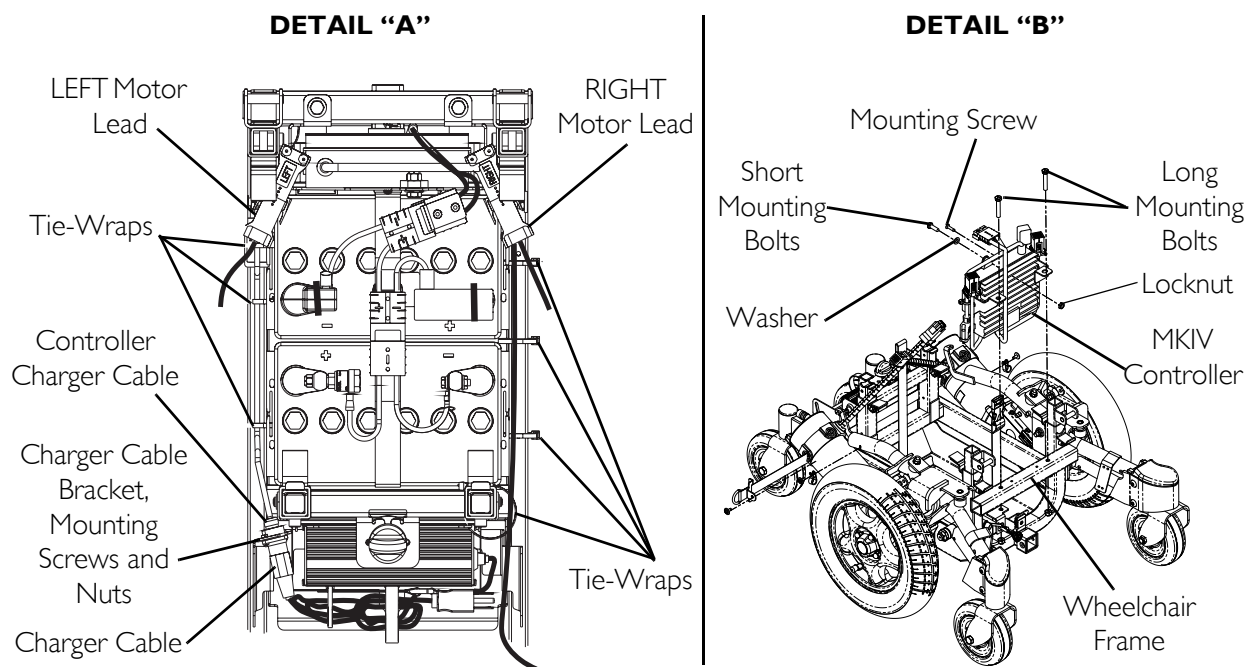

FIGURE 12.6 Replacing the MKIV RII™ 80 AMP Controller
NOTE: For this procedure, refer to FIGURE 12.6 on page 121.
3. Disconnect the right and left motor leads (Detail "A" of FIGURE 12.6).
4. Disconnect the controller charger cable from the charger cable (Detail "A" of FIGURE 12.6).
8. Remove the two mounting bolts securing the controller bracket to the wheelchair frame. (Detail "B" of FIGURE 12.6).